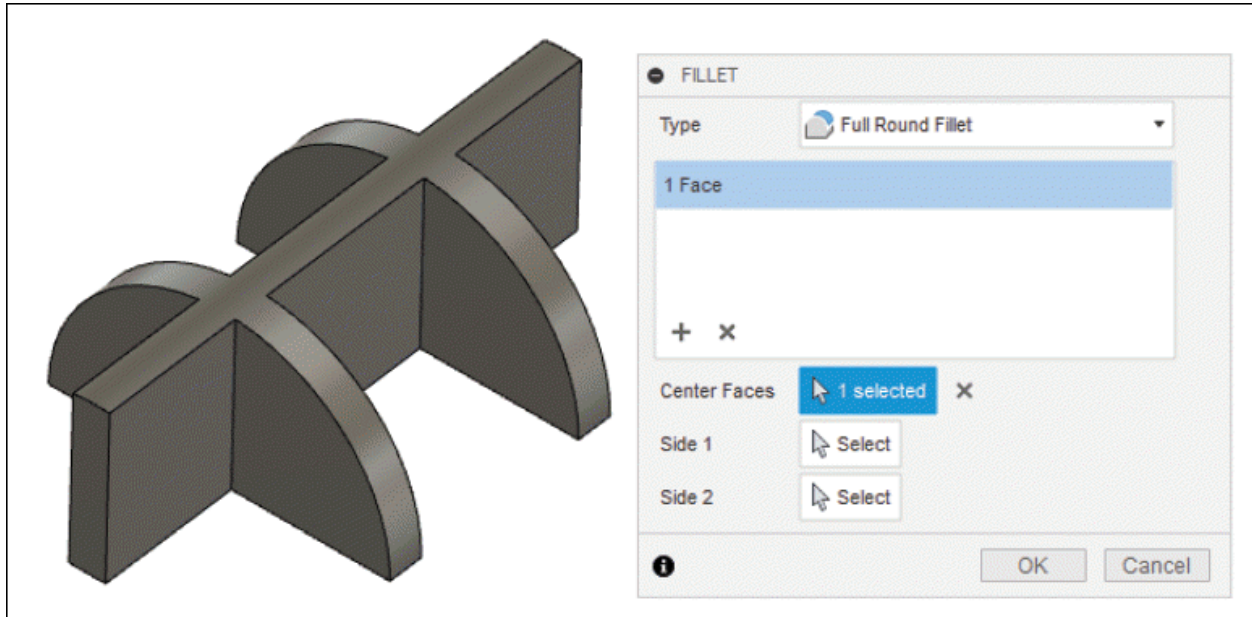

Figure-19. Full round fillet of model created with updated FILLET dialog box
- On selecting center face of the model, full round fillet of the model will be created and the updated **FILLET** dialog box will be displayed; refer to Figure-19.